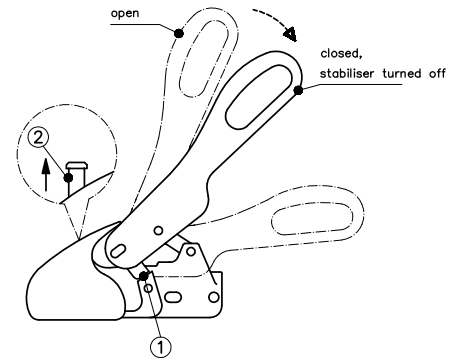

Fig. 4: Coupling
Please use the handles on the trailer and not the operating lever of the WS 3000/3500 when positioning the trailer. Place the open ball coupling on the vehicle's coupling ball (Fig. 4). The weight of the supported load (plus possible additional pressure) results in the drawbar closing the ball coupling automatically and the side securing plates (1) are positioned parallel to the securing surfaces on the housing (Fig. 4). The green pin in the control display (2) is visible if the coupling ball is located in the coupling housing (Fig. 4).
The trailer should be parked with the ball coupling closed if not being used for any greater length of time. To do so, raise the open operating lever (Fig. 4), simultaneously pull the ball socket forwards (mobile element – Fig. 9) or press the **SAFETY BALL** into the ball chamber and close the operating lever slowly.